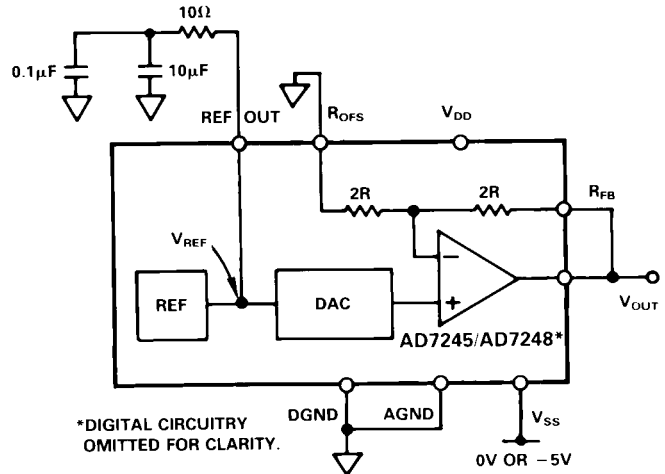

Figure 8. Unipolar (0 to +10V) Configuration
*REFERENCE DECOUPLING COMPONENTS AS PER FIGURE 8
The first of the configurations provides an output voltage range of 0V to +10V. This is achieved by connecting the bipolar offset resistor, R_{OFS} , to AGND and connecting R_{FB} to V_{OUT} . In this configuration the AD7245/AD7248 can be operated single supply ($V_{\text{SS}} = 0\text{V} = \text{AGND}$). If dual supply performance is required, a V_{SS} of -5V should be applied. Note that a V_{SS} supply more negative than -5V should not be applied to the AD7245/AD7248 when it is configured for a 0 to +10V output range. Figure 8 shows the connection diagram for unipolar operation while the table for output voltage versus the digital code in the DAC latch is shown in Table III.